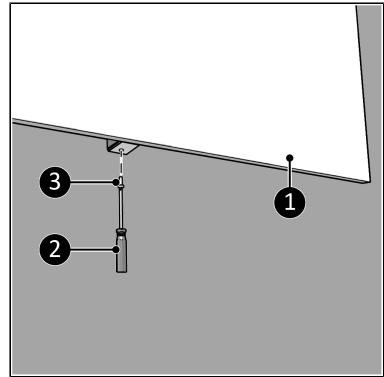

Figure 21.
10. Screw and tighten the device (Figure 21, pos. 1) with a small screw (Figure 21, pos. 3) to the wall bracket using a Phillips screwdriver (Figure 21, pos. 2).